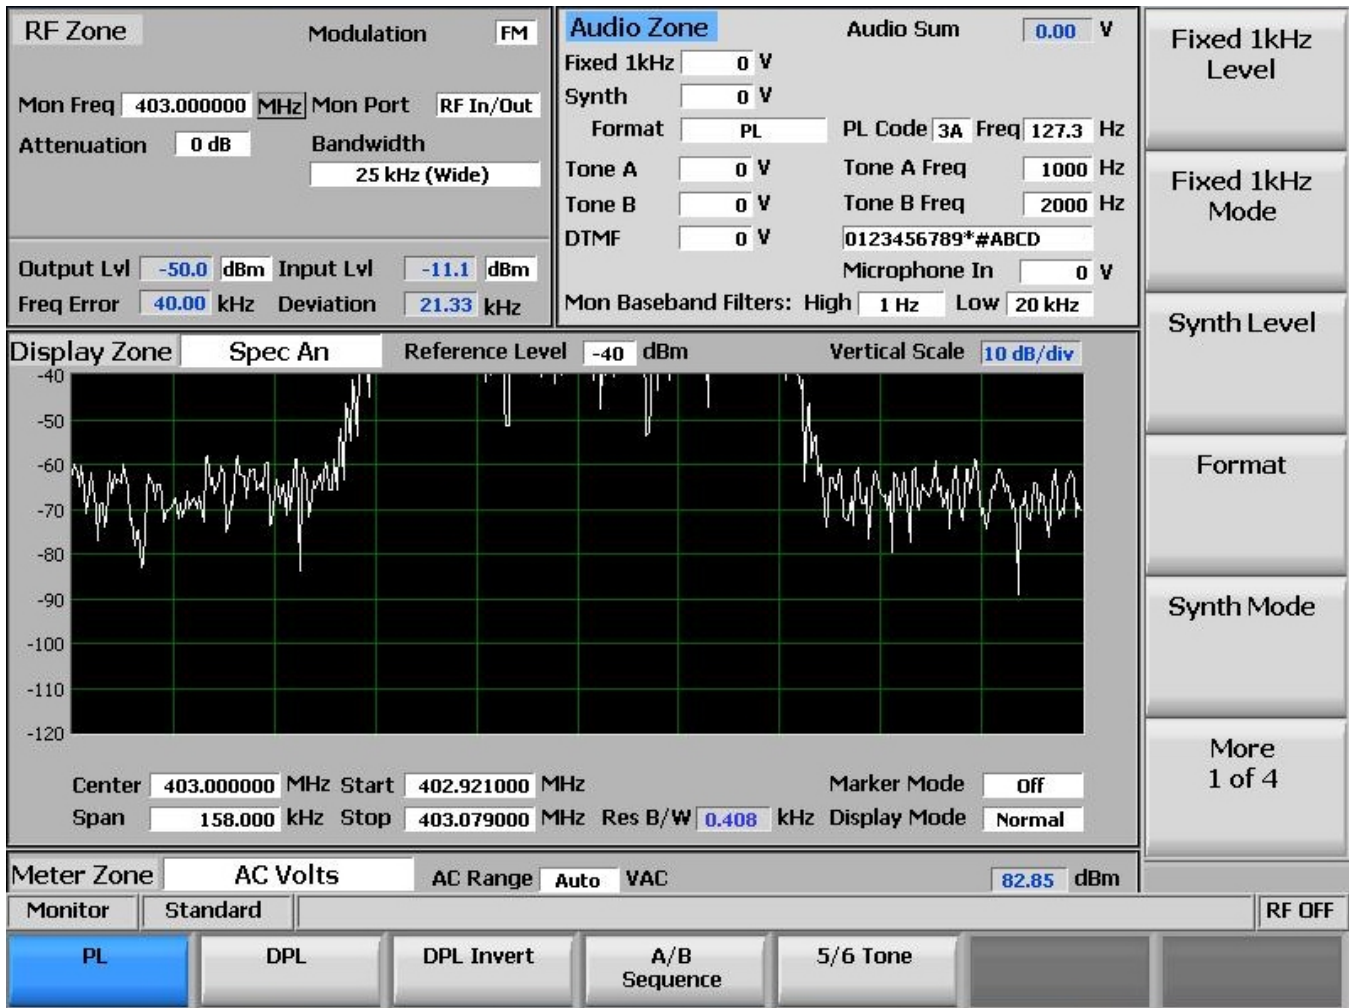

Figure 3.2.4.2-1 Format submenu in Audio Zone
*Activates a horizontal submenu with selections for the Synth encoding format – PL, DPL, DPL Invert, and A/B Sequence – see Figure 3.2.4.2-1. Selecting the format makes it the active encoding type for the audio synthesizer. **Note:** See paragraph 3.2.4.3 for specific submenu selections for these formats.*